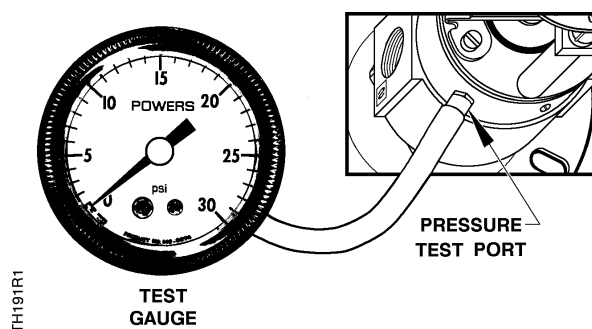

Figure 9. Using the Pressure Test Port.
4. Loosen the test port screw about 1/2 turn, and slip a 3/16-inch ID rubber hose connected to the test gauge over the pressure test port. See Figure 9.